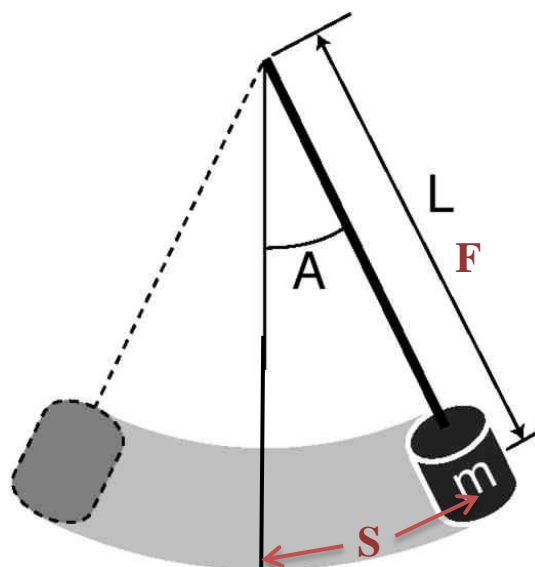

Fig. 8.2 Simple Pendulum
The simple pendulum is shown in Figure 8.2. Let us suppose that at some point in the swing of a pendulum the string makes an angle (A) with the vertical. In that case, the forces on the point mass m are FT , the tension in the string, acting along the string, and mg , the weight of the pendulum acting straight down. Thus the resultant force acts along the trajectory of the mass and has a magnitude of $mg \sin(A)$. The trajectory of the mass is always perpendicular to the tension FT . As well, the distance S along the trajectory from the equilibrium position to the mass is equal to LA where L is the length of the string and A is measured in radians. There are many times in the study of physics when you will find out that approximations are made. This is done not because the physicist is lazy, but rather because such approximations make the final result simple and concise. Such approximations, however, place limitations on the system and can only be used if such limitations are acceptable.